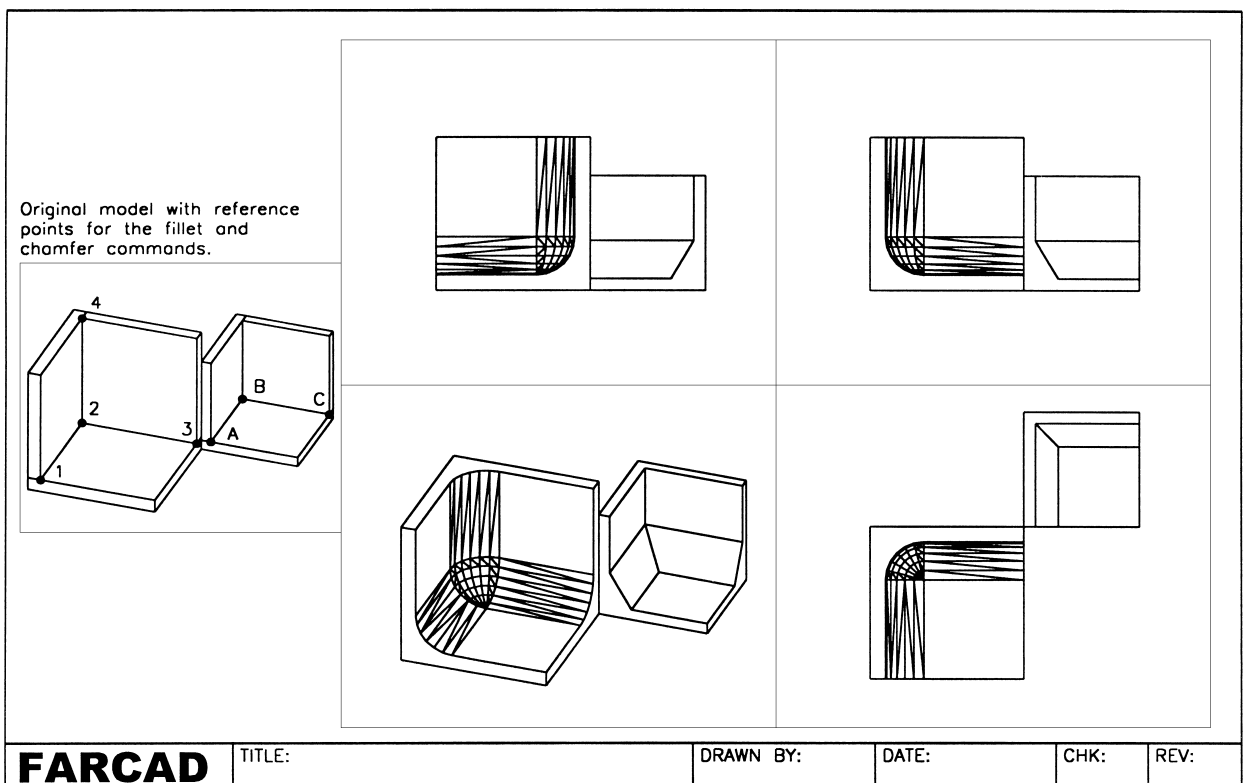

Figure 34.3 Practical use for chamfer/fillet.
- 1 Erase the composite on the screen and ensure UCS BASE, layer MODEL and lower left viewport active. Refer to Fig. 34.3